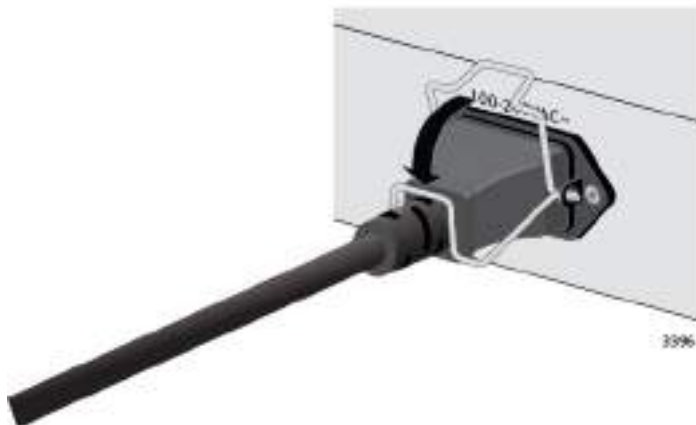

Figure 48. Lowering the Retaining Clip
4. Lower the retaining clip to secure the power cord to the switch. See Figure 48.